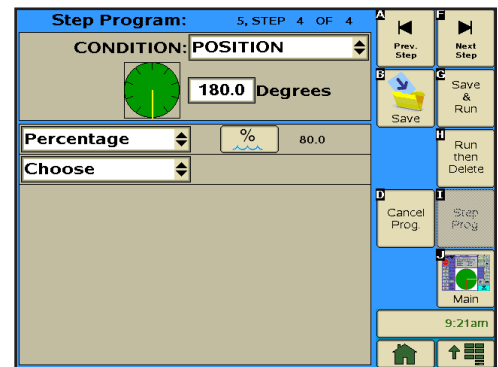

Figure 135-3
14. Program the position condition for this step. Refer to Figure 135-3.